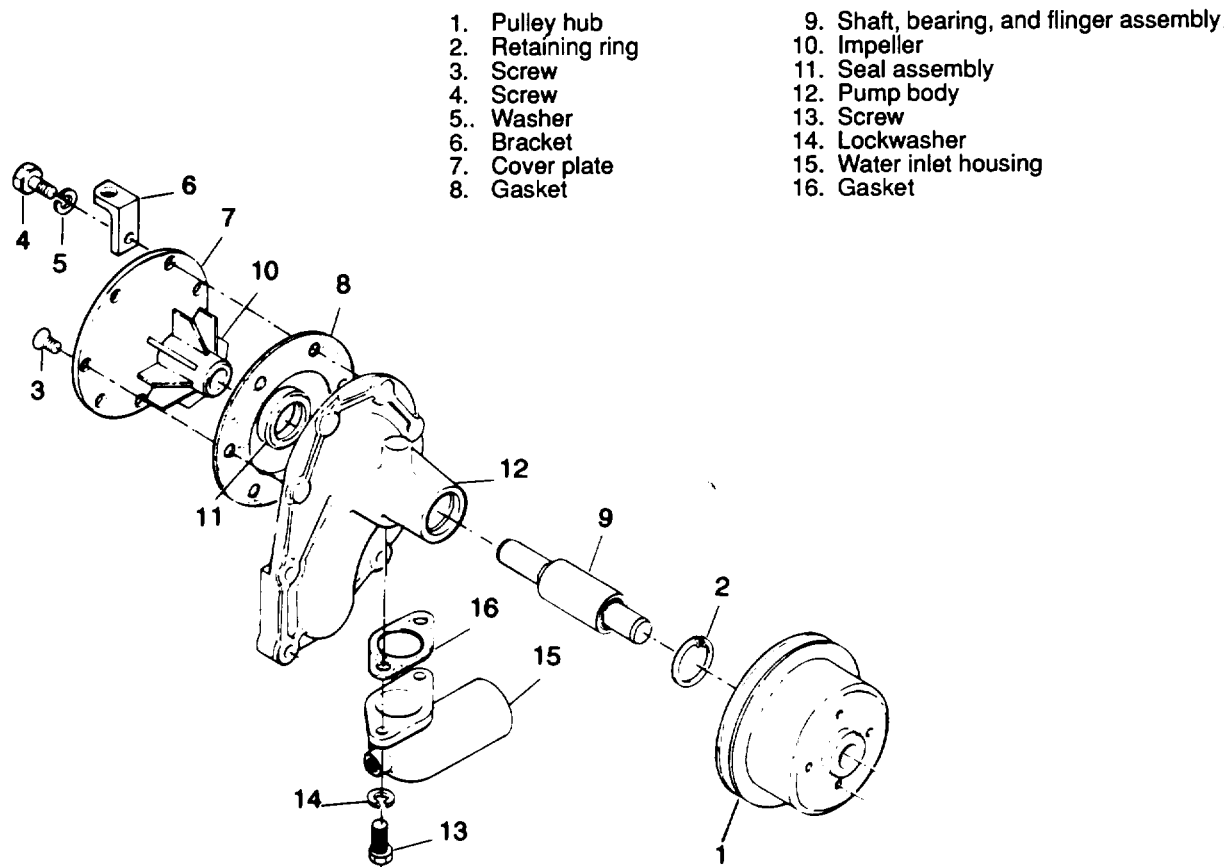

Figure 3-28. Water Pump Assembly, Exploded View
- (1) Using a suitable puller, remove pulley hub (1, figure 3-28).
- (2) Remove retaining ring (2).
- (3) Remove screws (3 and 4), lockwasher (5) and bracket (6) to remove cover plate (7) and gasket (8).
- (4) Support front end of pump in bed of arbor press and press shaft bearing and flinger assembly (9) from impeller (10), seal assembly (11), and pump body (12).